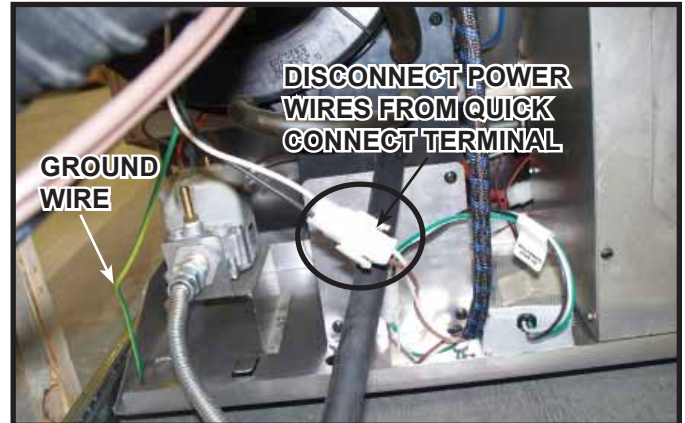

Figure 3.13. Disconnect Blower Wires
- Disconnect the blower power wires and green/yellow ground wire. See Figure 3.13.